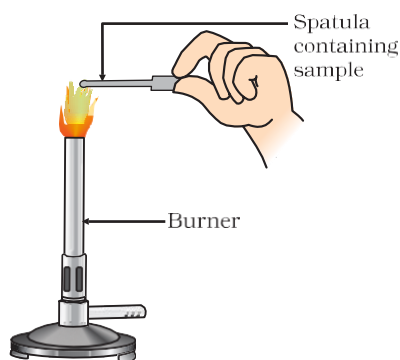

Figure 3.7 Heating a salt sample on a spatula
- Take a small amount of a sample on a metal spatula and heat directly on the flame (Fig. 3.7). Repeat with other samples.